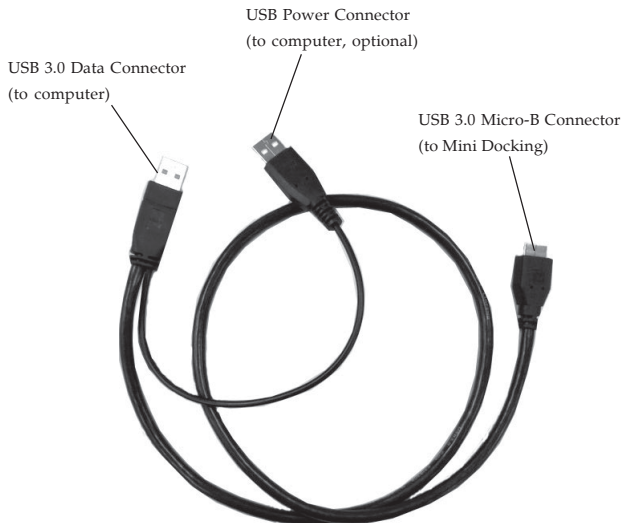

Figure 2: USB 3.0 Y-split Cable
2. Plug the included USB 3.0 cable, see Figure 2 on page 3, into the *Mini Docking*. (Use the end with the USB 3.0 Micro B connector)
3. Plug the **USB Data Connector**, see Figure 2 on page 3, into a USB port (USB 3.0 recommended) of the computer.